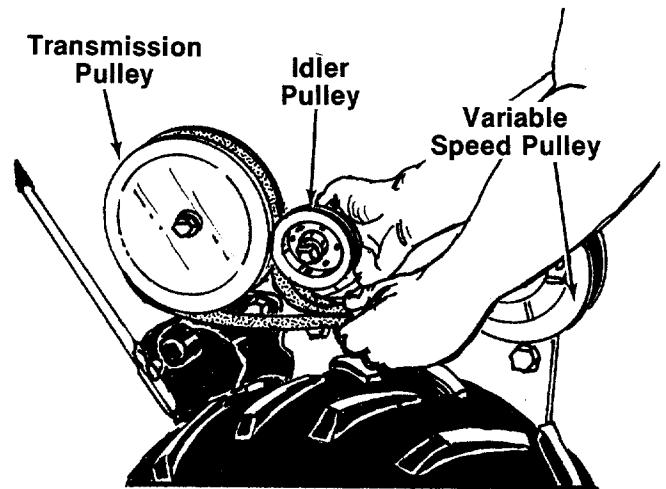

FIGURE 28.
3. Lift up on the idler pulley by hand, and remove the belt from beneath the idler pulley. Lift belt off the transmission pulley and variable speed pulley. See figure 28.